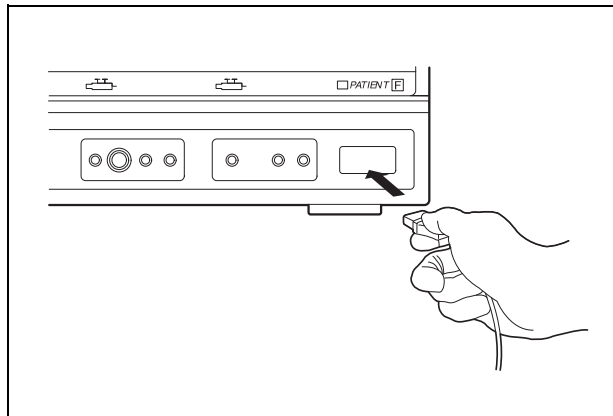

Figure 3.4
2. After confirming that the patient plate cable and plug are free of scratches and cracks, fully insert the plug into the patient plate connector on the front panel of the UES-40 (see Figure 3.4).